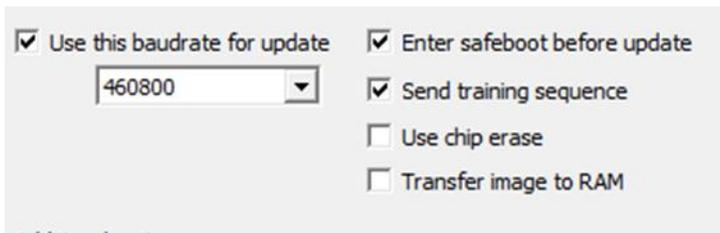

Figure 31: Setting the required baud rate, safeboot and training sequence options
4. Select **Enter safeboot before update** and **Send training sequence**. Select the **Use this baudrate for update** option and select e.g. 460800 from the drop-down list. This is shown in Figure 31 below.